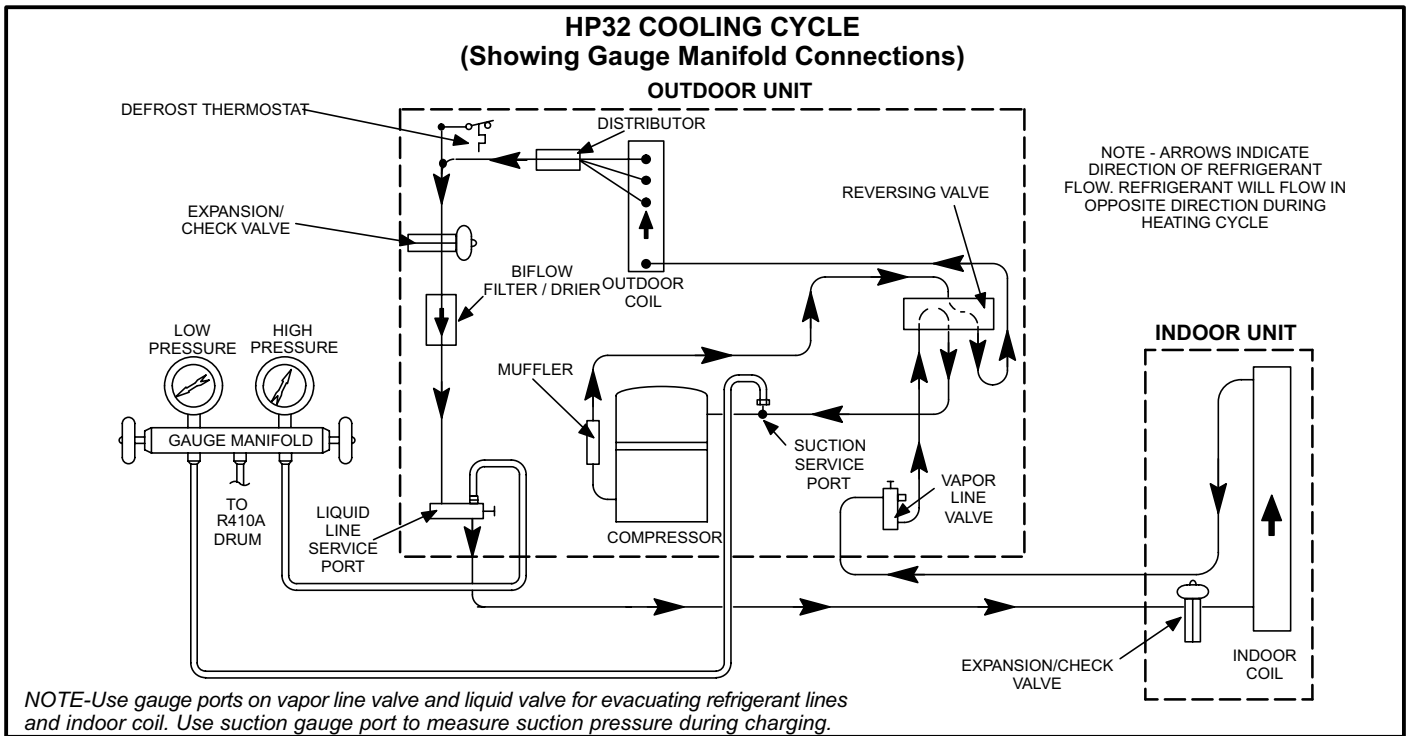

FIGURE 10
Separate discharge and suction service ports are provided at the service valves for connection of gauge manifold during charging procedure. Figures 10 shows HP32 refrigerant flow and gauge manifold connections.
- 1 - Connect gauge manifold as shown in figure 10. Connect an R410A drum to center port of gauge manifold.